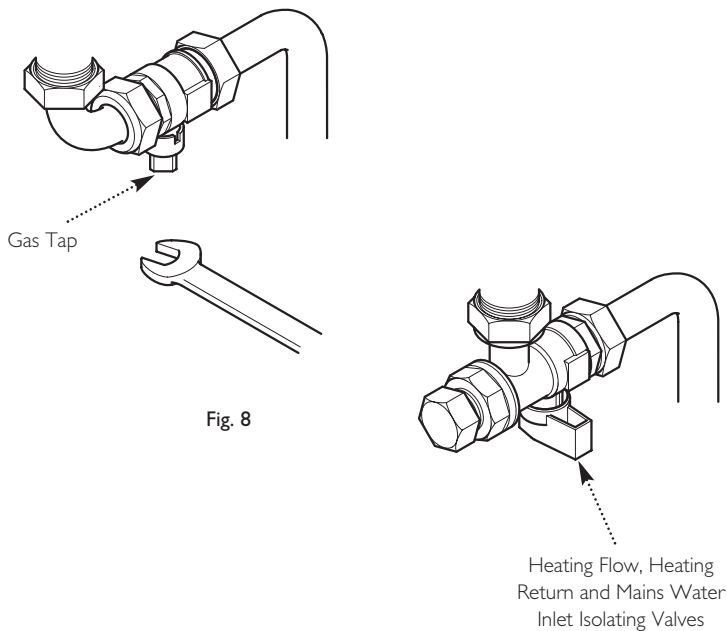

Fig. 8
Turn off the gas supply at the meter and call your gas supplier immediately. It is possible to isolate the boiler at the isolating valve (Fig. 8).
1. Using a suitable open ended spanner, turn the square nut on the gas tap through 90° (1/4 turn) to isolate the gas supply at the boiler (Fig. 8).
2. The water isolating valves are positioned under the boiler and can be closed by turning their taps to the right towards the wall (Fig. 8).